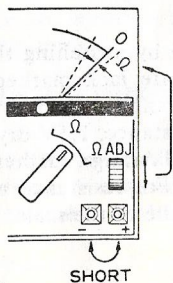

Fig. 4
② is rotated to the resistance range prescribed. Shorting together the + and -COM jacks, see if the pointer stays exactly on 0 (Fig. 4). The pointer must be adjusted each time the range is moved, but if you cannot adjust it to 0 for the X1 range, the internal 1.5V cell (UM-3) has worn out; if not for the X10 range, 9V (006P) cell has. You must replace them immediately.